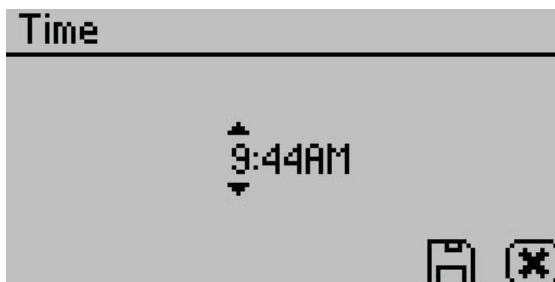

Figure 34 Time option
- **Time.** Select to set the time in the instrument. Use **RIGHT** and **LEFT** to change between the hour and minute categories and **UP** and **DOWN** to change the individual values (Figure 34). The hour setting automatically changes between **AM** and **PM**.